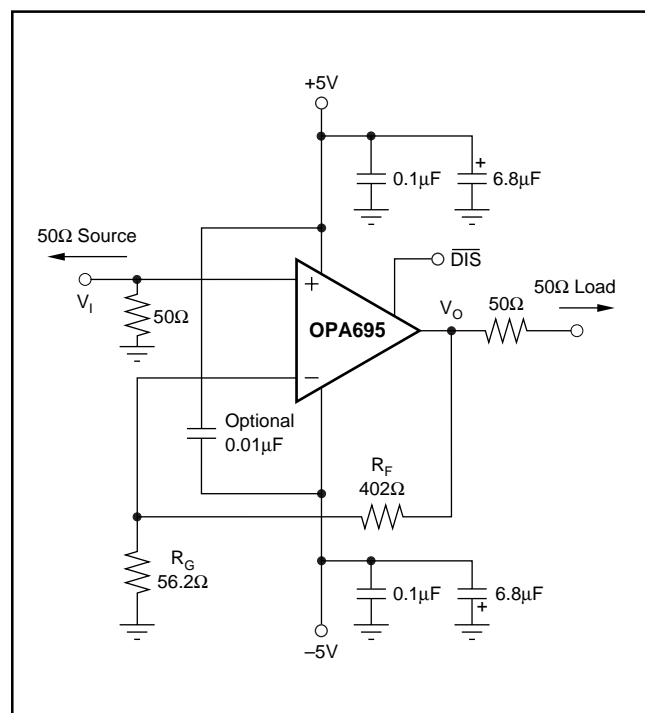
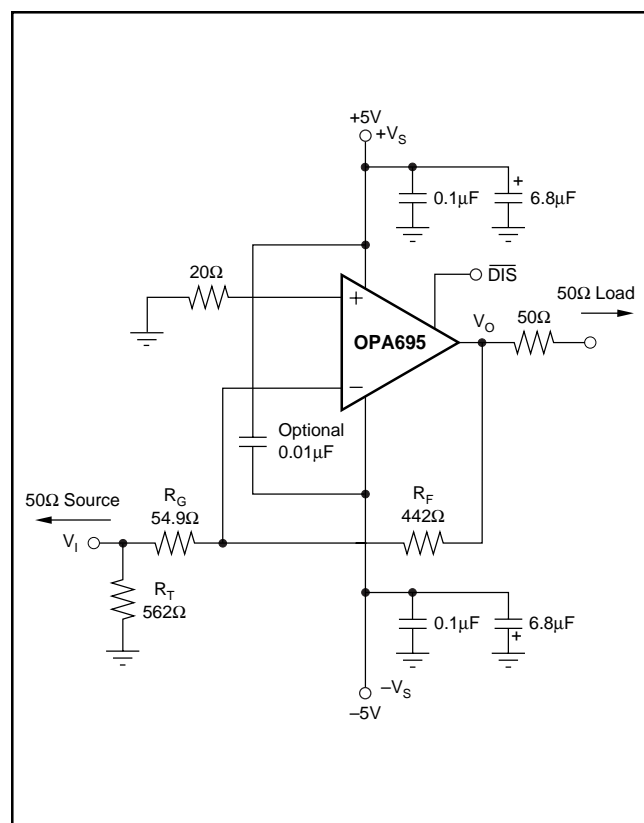
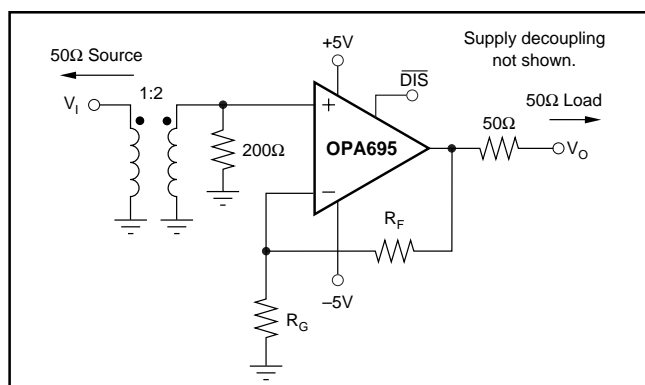

FIGURE 1. DC-Coupled,  $G = +8\text{V/V}$ , Bipolar Supply Specifications and Test Circuit.
FIGURE 2. DC-Coupled,  $G = -8\text{V/V}$ , Bipolar Supply Specifications and Test Circuit.
FIGURE 5. IF Amplifier with Improved Noise Figure.
Figure 1 shows the DC-coupled, gain of +8V/V, dual power supply circuit used as the basis of the  $\pm$ 5V Specifications and Typical Characteristic curves. For test purposes, the input impedance is set to 50 $\Omega$  with a resistor to ground and the output impedance is set to 50 $\Omega$  with a series output resistor. Voltage swings reported in the specifications are taken directly at the input and output pins while load powers (dBm) are defined at a matched 50 $\Omega$  load. For the circuit of Figure 1, the total effective load will be 100 $\Omega$  || 458 $\Omega$  = 82 $\Omega$ . The disable control line ( $\overline{\text{DIS}}$ ) is typically left open to get normal amplifier operation. The disable line must be asserted low to shut off the OPA695. One optional component is included in Figure 1. In addition to the usual power supply decoupling capacitors to ground, a 0.01 $\mu$ F capacitor is included between
Figure 2 shows the DC-coupled, gain of -8V/V, dual power supply circuit used as the basis of the Inverting Typical Characteristic curves. Inverting operation offers several performance benefits. Since there is no common mode signal across the input stage, the slew rate for inverting operation is higher and the distortion performance is slightly improved. An additional input resistor,  $R_T$ , is included in Figure 2 to set the input impedance equal to 50 $\Omega$ . The parallel combination of  $R_T$  and  $R_G$  set the input impedance. Both the non-inverting and inverting applications of Figures 1 and 2 will benefit from optimizing the feedback resistor ( $R_F$ ) value for bandwidth (see the discussion in *Setting Resistor Values to Optimize Bandwidth*). The typical design sequence is to select the  $R_F$  value for best bandwidth, set  $R_G$  for the gain, then set  $R_T$  for the desired input impedance. As the gain increases for the inverting configuration, a point will be reached where  $R_G$  will equal 50 $\Omega$ , where  $R_T$  is removed and the input match is set by  $R_G$  only. With  $R_G$  fixed to achieve an input match to 50 $\Omega$ ,  $R_F$  is simply increased, to increase gain. This will, however, quickly reduce the achievable bandwidth, as shown by the inverting gain of -16 frequency response in the Typical Characteristic curves. For gains > 10V/V (14dB at the matched load), noninverting operation is recommended to maintain broader bandwidth.
The ultra-high, full-power bandwidth and 3rd-order intercept of the OPA695 may be used to good advantage in IF amplifier applications. Additional benefits to using a wideband op amp such as the OPA695 include extremely good (and independent) I/O impedance matching as well as very high reverse isolation. A designer more accustomed to using fixed-gain RF amplifiers will get almost perfect gain accuracy, much higher I/O return loss, and 3rd-order intercept points exceeding 30dBm (up to 110MHz) using only a 13mA supply current for the OPA695. Using the considerable design freedom achieved by adjusting the external resistors, the OPA695 can replace a wide range of fixed-gain RF amplifiers with a single part. To understand (in RF amplifier terms) how to take advantage of this, consider first the 4-S parameters (this will be done using the example circuits of Figures 1 and 2 on  $\pm 5V$  supplies, but similar results can be obtained on a single +5V to +12V supply).
Input return loss is a measure of how nearly (over frequency) the input impedance matches the source impedance. This is relatively independent of gain setting for both the noninverting and inverting configurations. The Typical Characteristic curves show the magnitude of  $S_{11}$  for the circuits of Figures 1 and 2 through 1GHz (noninverting gain of +8 and inverting gain of -8 operation, respectively). Noninverting operation does offer much better matching to higher frequencies, with the only deviation due to the parasitic input capacitance of the input pin. The noninverting input match is simply set by the resistor to ground on the noninverting input, since the amplifier itself shows a very high input impedance. Inverting operation is also very good, but rises more quickly due to loop gain roll-off effects appearing at the inverting node. The inverting mode input match is set by the parallel combination of  $R_G$  and  $R_T$  in Figure 2, since the inverting amplifier node may be considered a virtual ground. A good, fixed-gain, RF amplifier would have an input, Voltage Standing Wave Ratio (VSWR) < 1.2:1. This corresponds to an  $S_{11}$  of -21dB. The OPA695 exceeds this performance through 100MHz for the inverting mode of operation, and through 400MHz for the noninverting mode.
Signal gains are most often referred to as V/V in op amp data sheets. This is the voltage gain from input to output and is set by external resistor ratios. Since the output impedance is set by a physical series resistor, the voltage gain to the matched load is cut in 1/2 by this resistor divider. The log gain to the matched load for the noninverting circuit of Figure 1 is: (1)
The log gain to the matched load for the inverting circuit of Figure 2 is: (2)
The specific resistor values used in Figures 1 and 2 give both a maximally flat bandwidth and a 12dB gain to the matched load. The design tables at the end of this section summarize the required resistor values over a range of desired gains for the circuits of Figures 1 and 2.
curves. The inverting configuration holds almost constant bandwidth (with correctly selected external resistor values) until  $R_G$  reduces to equal  $50\Omega$ , and remains at that value to satisfy the input impedance matching requirement, with further increases in gain achieved by increasing  $R_F$  in Figure 2. The bandwidth then decreases rapidly as shown by the gain of  $-16V/V$  plot in the Typical Characteristic curves.
Reverse isolation is a measure of how much power injected into the output pin makes it back to the source. This is rarely specified for an op amp because it is so good. Op amps are very nearly uni-directional signal devices. Below 300MHz, the noninverting configuration of Figure 1 gives much better isolation than the inverting of Figure 2. Both are well below 40dB isolation through 350MHz.
Op amp noise figure equations include at least six terms (see the Noise Performance section), due to the external resistors. As a point of reference, the circuit of Figure 1 has an input noise figure of 14dB while the inverting configuration of Figure 2 has an input noise figure of 11dB. At higher gains, it is typical for the inverting noise figure to be slightly better than for an equivalent gain, noninverting configuration. One easy way to improve the noise figure for the noninverting configuration of the OPA695 is to include a step-up, 1:2 turns ratio transformer at the input. This configuration is shown in Figure 5.
TABLE I. Noninverting Wideband Op Amp (Figure 1).
TABLE II. Noninverting with a 1:2 Input Step-Up Transformer (Figure 5).